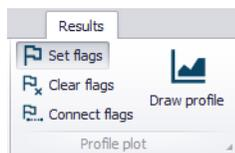

Figure 19.38 Set flags from the Profile Plot toolbox on the Results ribbon
- Set path flags on the result map using the 'Set flags' tool from the Profile Plot toolbox on the Results ribbon (Figure 19.38).